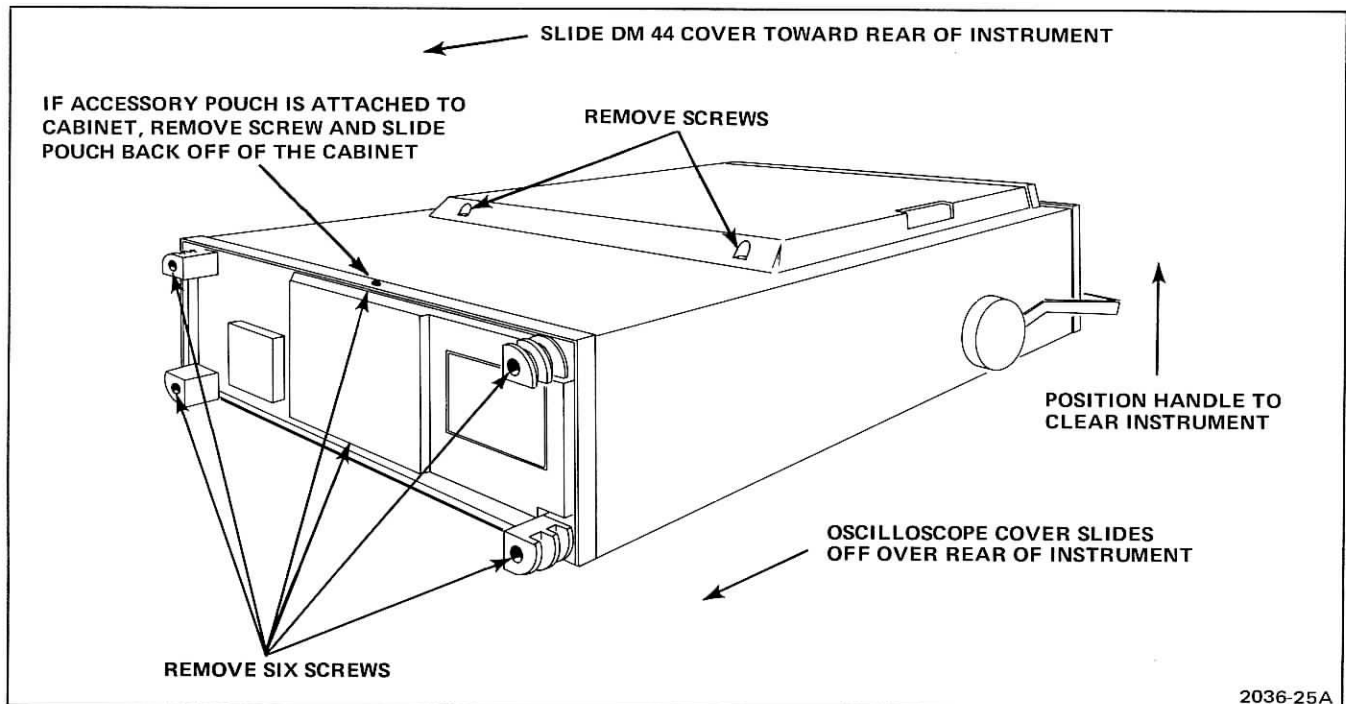

Fig. 5-1. Cover removal.
2. Loosen screw at back of accessory pouch and slide pouch back off of the cabinet top. Remove two screws from the DM44 cover (see Figure 5-1).
3. Remove the six screws as shown in Figure 5-1.